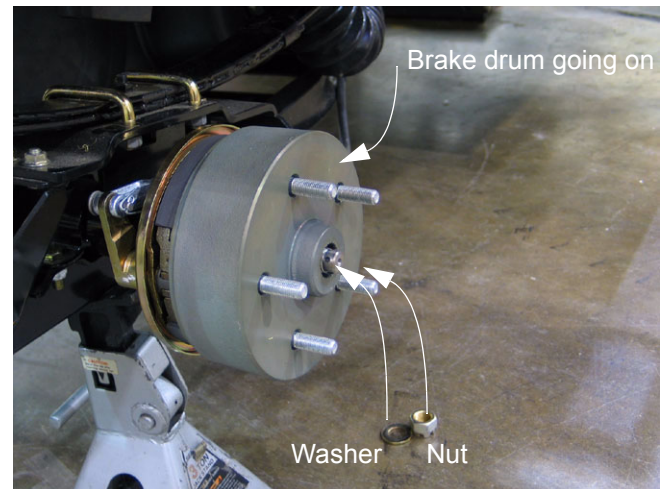

Figure 2.20
- 2.20. Position the brake drums on the axles, then secure them with the hub nuts and washers. See Figure 2.20.